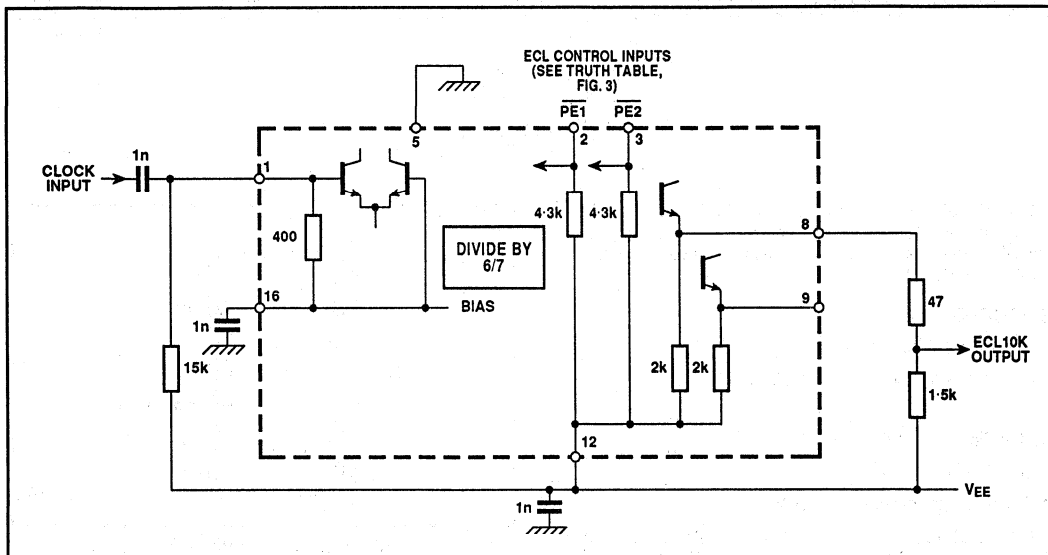

Fig. 7 Typical application circuit showing interfacing
4. The Q and \bar{Q} outputs are compatible with ECLII but can be interfaced to ECL10K as shown in Fig. 7. There is an internal circuit equivalent to a load of $2k\Omega$ at each output.